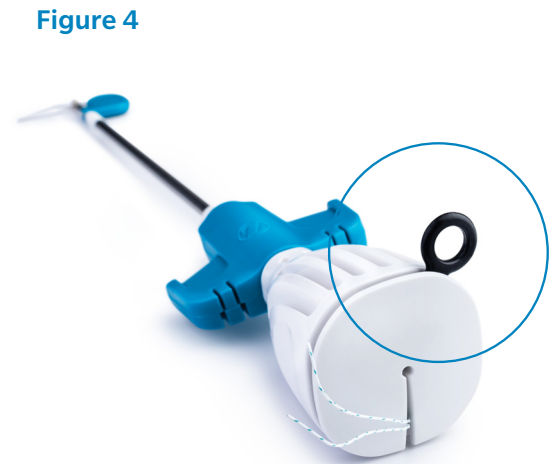

Figure 4
4. Ensuring the anchor body is contacting bone, hold inserter wings steady and rotate inserter handle clockwise until anchor is flush with the bone. Remove the black rubber ring (Figure 4) and unwind the #2 eyelet retention suture from inserter handle and remove inserter shaft.